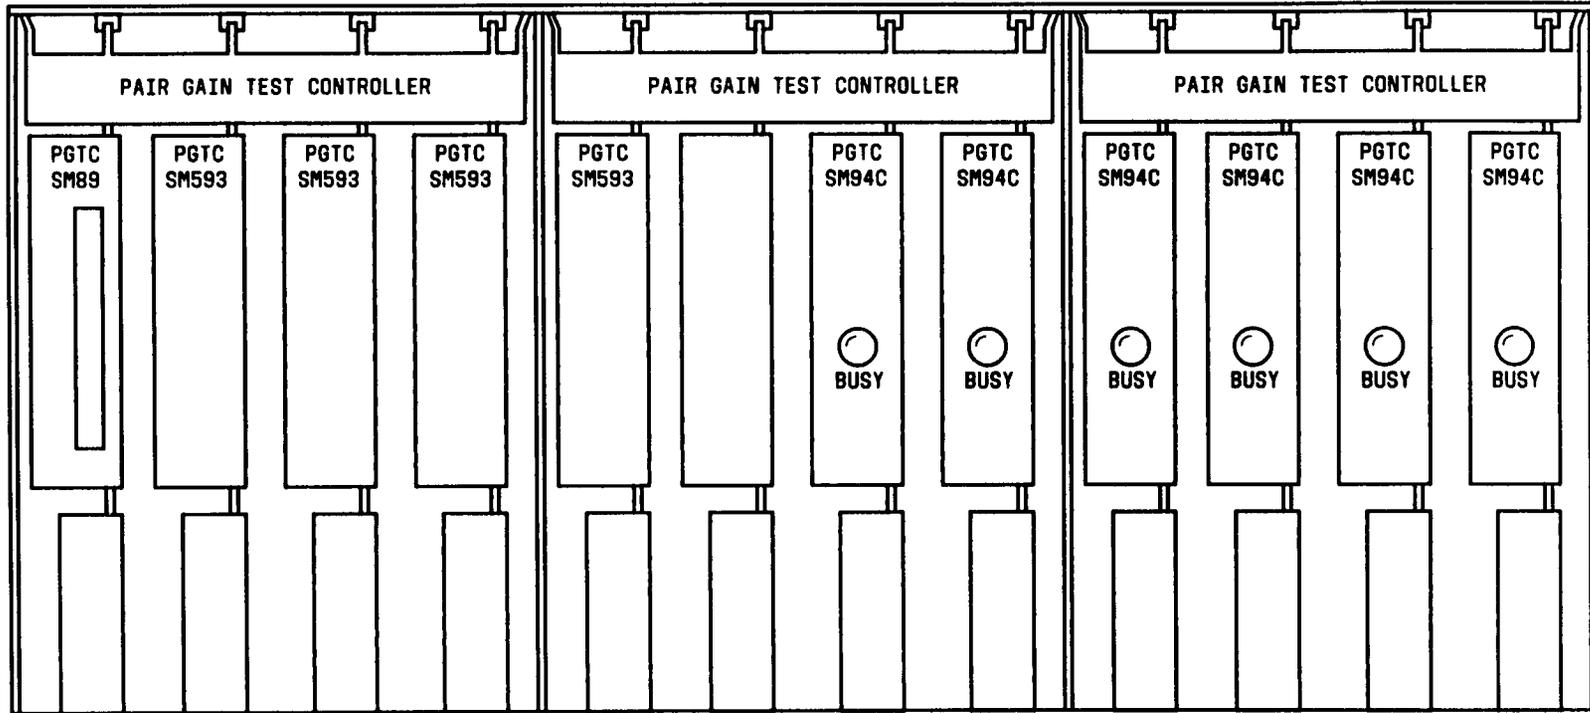

Figure 10 — PGTC J1C142A, L1 Control Shelf (Modified)
2.02 The XTC control and each expansion shelf is 12 inches high, 23 inches wide, and 11 inches deep. The shelves are designed for front mounting in a 23-inch wide framework. The recommended mounting arrangement includes all shelves in the same bay (including the PGTC shelves if required). The XTC control shelf should be installed in the middle of the equipment frame. The J1C142A PGTC shelves (Figures 10 and 11) should be front mounted directly below the XTC control shelf. If PGTC expansion shelves are added to the bay, locate them below the XTC control shelf. When XTC expansion shelves are added to the bay, locate them above the XTC control shelf. If the XTC is to be connected to SARTS, then SARTS MIU (metallic interface units), J1P033BE(-), L1, L2 can be front mounted in the same bay at the extreme bottom or in the RTS-5A bay. (Each shelf is 2 inches high.) Each MIU serves two XTC tester units. Therefore, two MIUs are required for an XTC control shelf — two are required for XTC expansion shelf 1, and one is required for XTC expansion shelf 2.